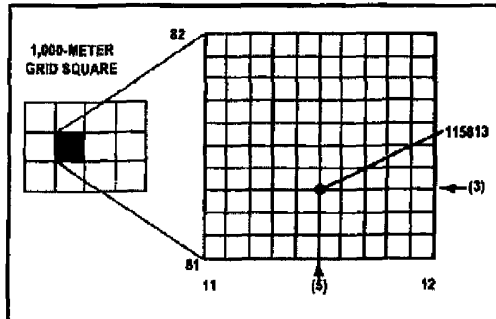

Figure C-12. Grid square 1181 divided
a. To get these extra numbers, suppose that each grid square has 10 lines inside it running north and south, and another 10 running east and west. This makes 100 smaller squares. You can estimate where these imaginary lines are (figure C-12).
b. Suppose you are halfway between grid line 11 and grid line 12. Then the next number is 5 and the first half of your address is 115. Now suppose you are also 3/10 of the way between grid line 81 and grid line 82. Then the second half of your address is 813. Your address would be 115813 (figure C-12). (If you are exactly on line 81, the second half would be 810.)